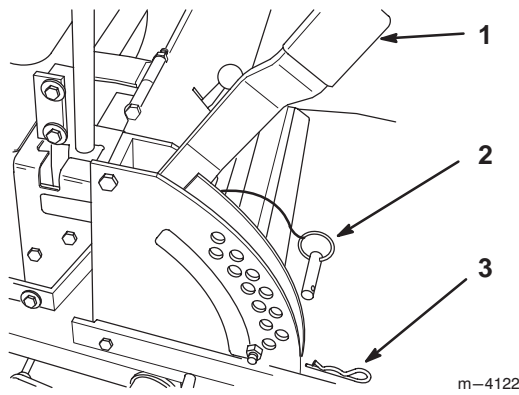

Figure 22
1. Raise the height-of-cut lever to the transport position (also the 4-1/2" (114 mm) cutting height position) (Fig. 22).
2. To adjust, remove hairpin cotter and clevis pin from height-of-cut bracket (Fig. 22).
3. Select hole in height-of-cut bracket corresponding to the height-of-cut desired, and insert clevis pin (Fig. 22).
4. Secure clevis pin with hairpin cotter (Fig. 22).